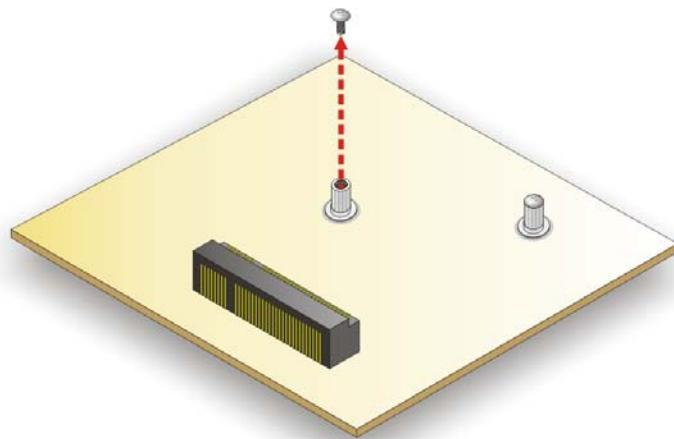

Figure 3-18: Removing the Retention Screw
Step 4: Remove the retention screw. Remove the retention screw for half-size card installation as shown in **Figure 3-18**.